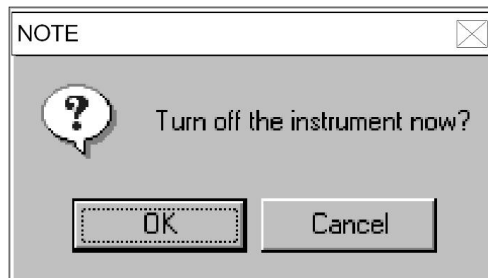

Figure 3-3
- In the blood cell analyze window, press the right key of the mouse, pops up the menu. Select **"Shutdown"** in the menu, pops shutdown window, as shown in figure 3-3.